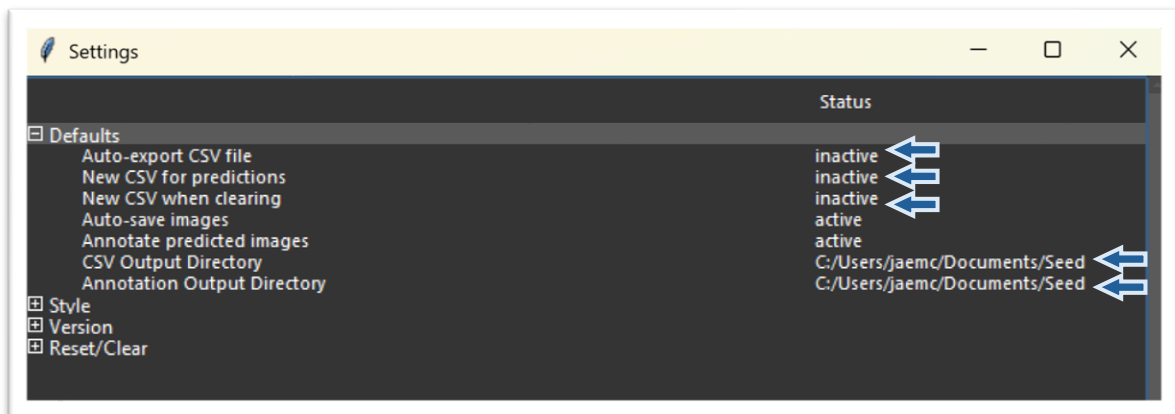

Figure 4.2. The settings window with recommended changes indicated with arrows.
- ii. Double-click the space next to “CSV Output Directory” and select the folder named excel within the main folder in the pop-up window (Figure 4.2).